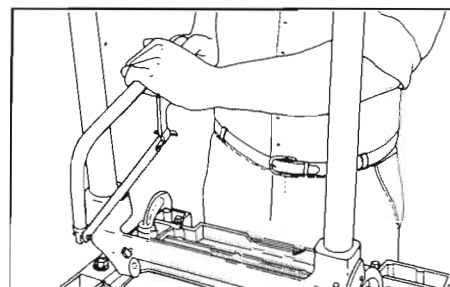

Figure 2. Cutting the tube boss.
e. Use a hacksaw with a sharp blade to cut vertically through the tube boss but not into the horizontal part of the tie bar. (See Figure 2.)
a. Hold the mounting block (17) against the outfeed end of the tie bar and slide it up until it fits snug against the tie bar shoulder. It should not ride up on the shoulder. Align the face of the mounting block parallel with the rear edge of the worktable by sighting along the face of the mounting block and the edge of the table.